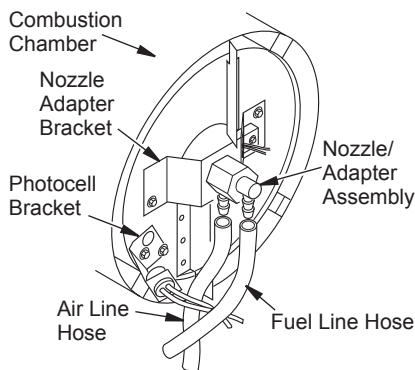
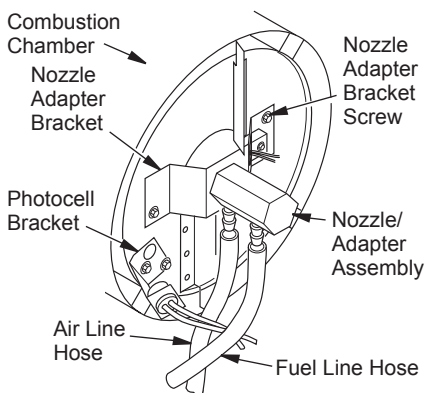
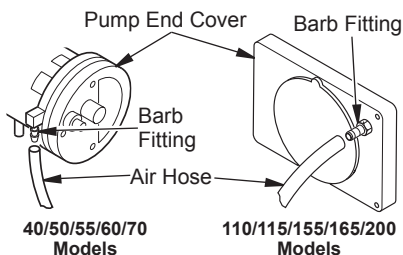

Figure 23 - Removing Air and Fuel Line Hoses (40/50/55/60/70 Models Only)
Figure 27 - Removing Air and Fuel Line Hoses (200 Model Only)
Figure 29 - Air Hose to Barb Fitting
9. Carefully guide ignitor into opening in nozzle adapter bracket. Do not strike ignitor element. Attach ignitor to nozzle adapter bracket with screw using a 1/4" nut driver for models using ignitor HA1000 or 1/16" nut driver for models using 102548-08 ignitor (see Figure 23). Torque 0.90 to 1.69 N-m (8 to 15 in-lbs) Do not over torque.
14. Replace photocell in photocell bracket. Route wires as shown in either (see Figures 23, 24 or 27, page 12).
3. Remove fuel and air line hoses from nozzle assembly (see Figure 23 or 24).
3. Remove two nozzle adapter bracket screws (see Figure 27).
4. Inspect fuel and air line hoses for cracks and/or holes. If fuel line hose is damaged, disconnect from nozzle adapter (see Figure 23 or 24, page 12, or Figure 27) and from fuel filter (see *Fuel Filter*, page 10). If air line hose is damaged, disconnect from nozzle adapter (see Figure 23 or 24, page 12, or Figure 27) and from barb fitting on pump end cover (see Figure 29).
5. Install new air and/or fuel line. Attach one end of air line hose to barb fitting on pump end cover (see Figure 29) and the other end to nozzle adapter (see Figure 23 or 24, page 12, or Figure 27). Attach one end of fuel line hose to fuel filter (see *Fuel Filter*, page 10) and the other end to nozzle adapter (see Figure 23 or 24, page 12, or Figure 27).
Note: Route hoses as shown in see Figure 23 or 24, page 12, or Figure 27, according to model. Hoses are not to touch photocell bracket.